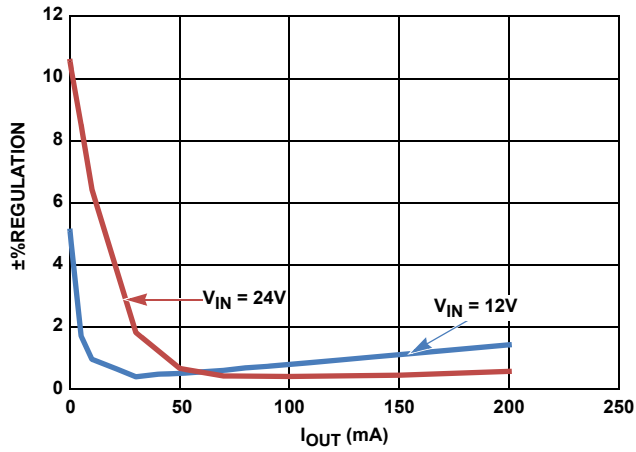
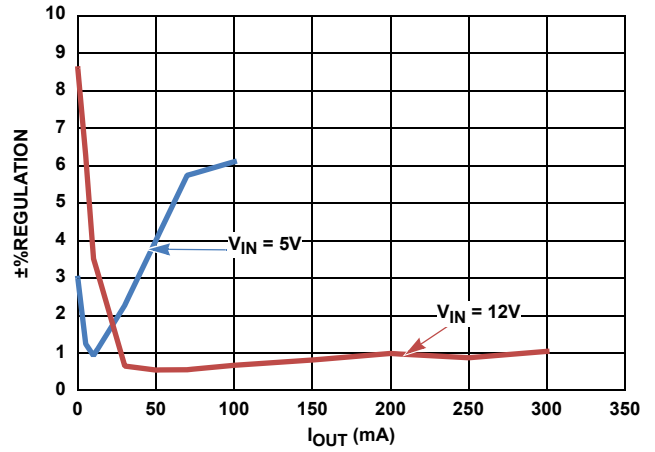

FIGURE 10.  $V_{OUT} = 5V, \%REGULATION$  vs  $I_{OUT}$
FIGURE 11.  $V_{OUT} = 3.3V, \%REGULATION$  vs  $I_{OUT}$
- Continuous output current up to 300mA (refer to Figures 10 and 11)
The curves in Figure 10 indicate the secondary output voltage regulation versus the load applied in the secondary output, without any load on the primary output for  $V_{OUT} = 5V$ , at different input voltages. The curves in Figure 11 indicate the secondary output voltage regulation versus the load applied in the secondary output, without any load on the primary output for  $V_{OUT} = 3.3V$ , at different input voltages.